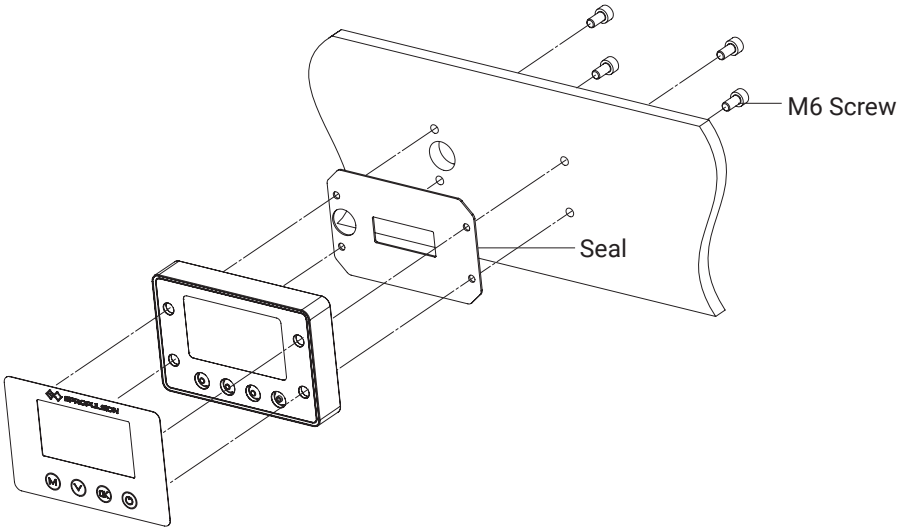

Figure 2-6
② Fix the display panel to the boat referring to the figure 2-6.